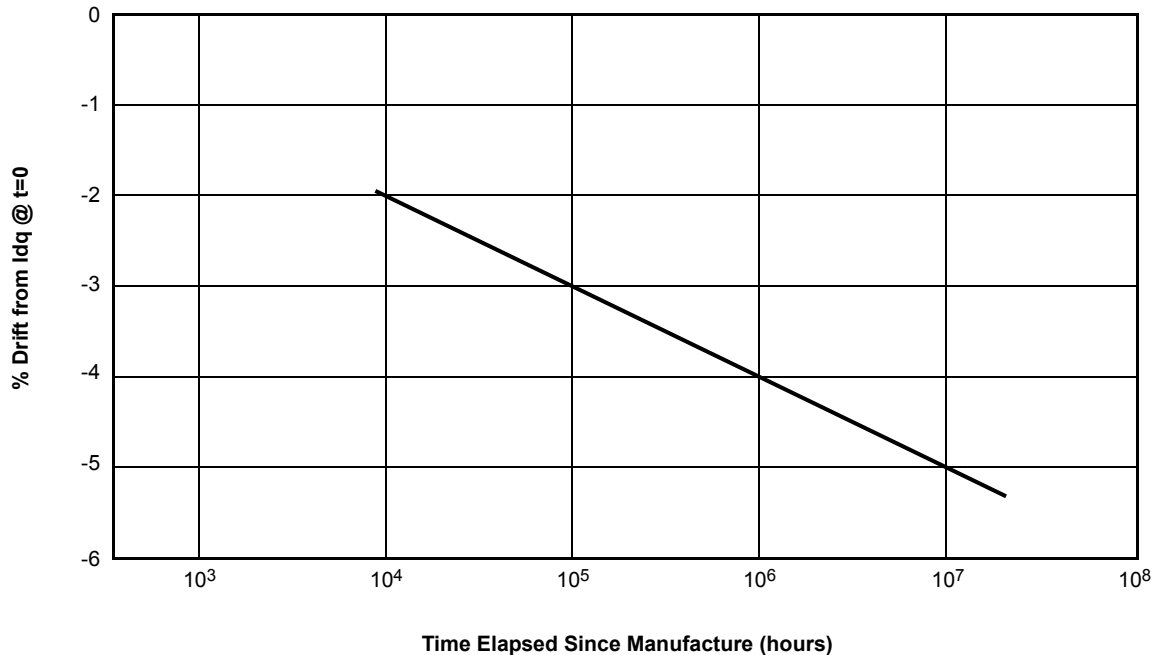

FIGURE 6.
- LDMOS transistors suffer from performance drift, Figure 6, over time. The net effect is that a slightly increased amount of gate voltage is required to maintain a given drain current. LDMOS processes are being refined continually, and current drift figures are typically 5% over 20 years. Most of this drift occurs while the amplifier is undergoing test in the factory; effectively burning the device in, before delivery. Drift is also proportional to the process cut-off frequency.